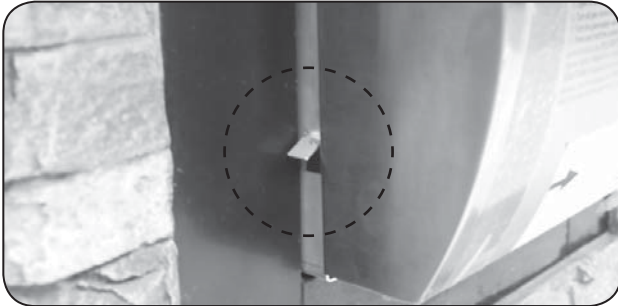

Fig. 8-1 Tab may interfere when sliding in unit
Note: Each side of the unit has a tab just behind the control panel. These tabs prevent the control panel from moving inward. If the tabs interfere with the unit sliding in (see Fig. 8-1), use pliers to bend them inward so that they clear the enclosure sides. Leave the tabs slightly out to ensure they still keep the control panel from moving inward (see Fig. 8-2).
- Connect the power supply box to the double sideburner, as shown in Fig. 8-1 (molex and ground wire connections).